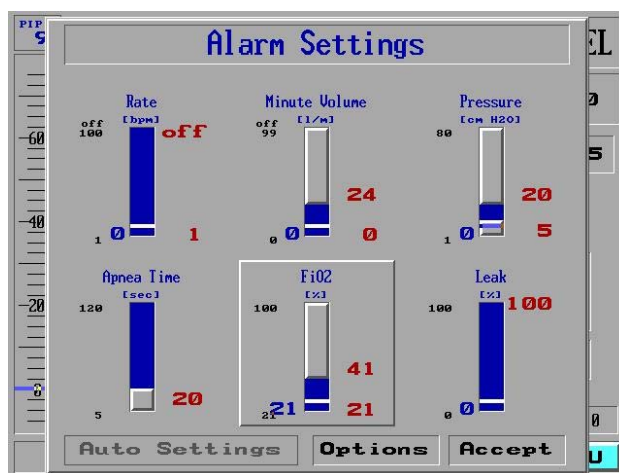

Figure 138: The FiO2 Alarm Slider Selected
3. In the Alarm Settings screen, dial the Control Knob until FiO2 is selected in relief (Figure 138).